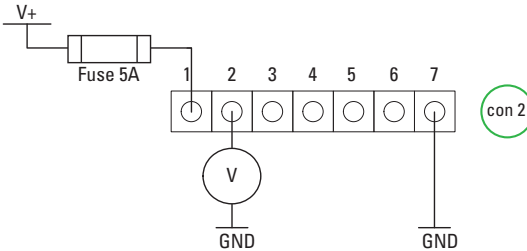

Figure 23. Determining the batteries SoC
3. Determine the voltage at Pin 2 of CON2 (see Figure 23).